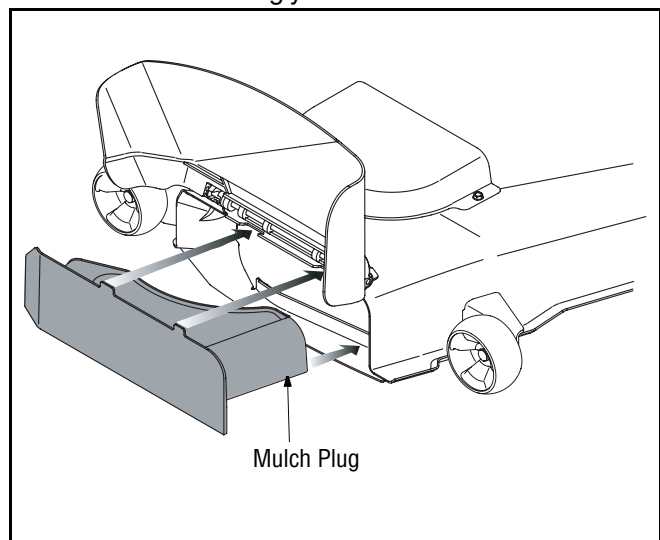

Figure 10
- Pivot the discharge chute up to access the deck opening. See Figure 10.
- Insert the mulch plug, aligning the top edge of the plug with the deck as shown in the Figure 10. Make sure the notches on the plug are in the slots on the deck opening.